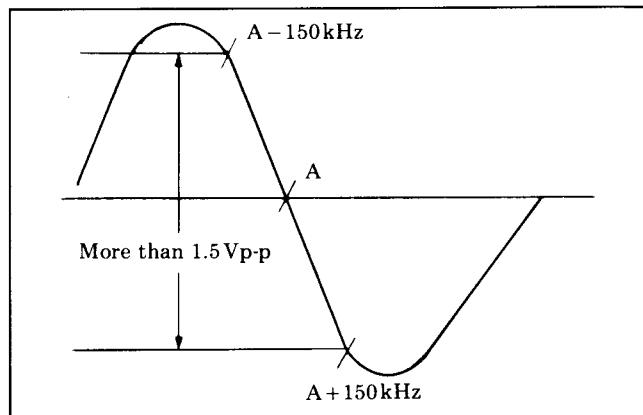

Fig. 36 SIF WAVEFORM
1. Connect a jumper wire between IC7651-⑨ and GND (NV-G10, G7EG/EO).
2. Set the BAND SW of the deck to the VHF high position (VH) (NV-G10, G7EG/EO). Turn the tuning volume so that the voltage at BT terminal of the tuner becomes $15V \pm 1V$.
5. Connect the JIG. both points TP709 and TV DEMODULATOR PACK-④. Adjust the VR1 of the JIG. so that the DC level becomes less than 5V.
8. Adjust T752 so that the attenuation of (A) trap becomes minimum.
9. Adjust T751 for maximum peak-to-peak amplitude of response "S" curve as shown in Fig. 36.